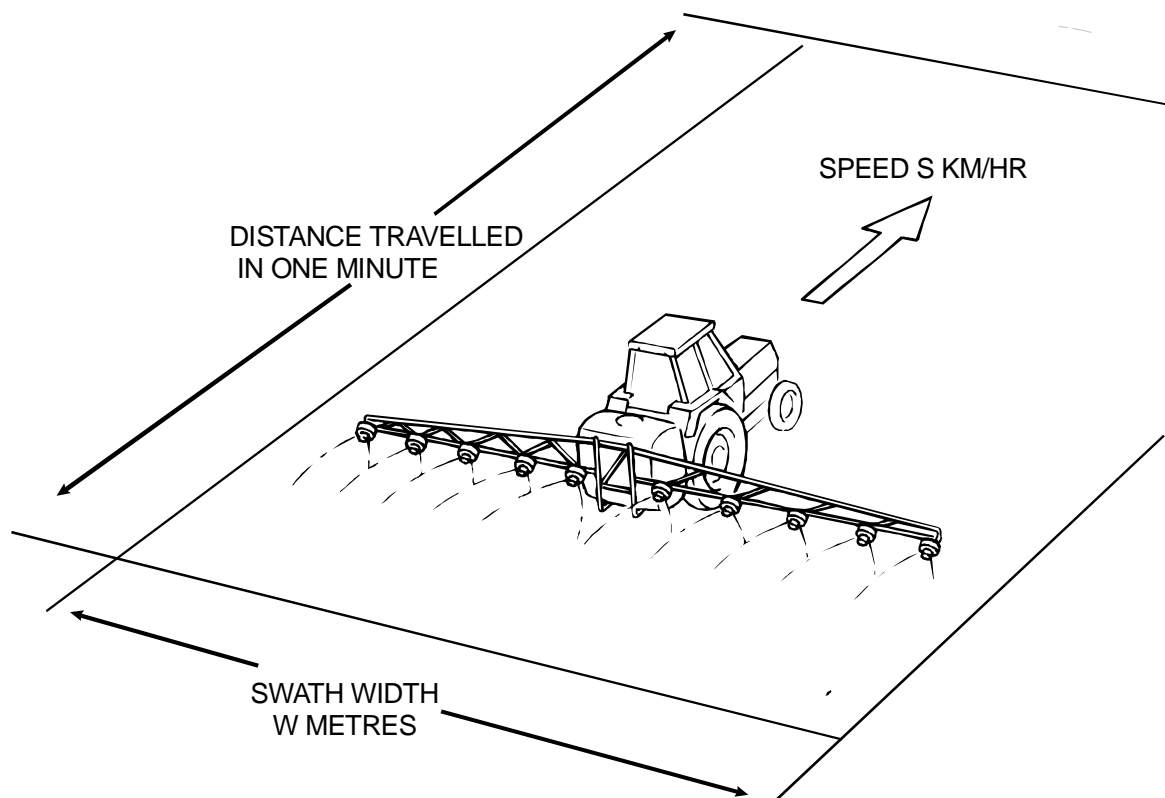

Figure 9. Coverage of sprayer
3. Calculate the area treated by the sprayer per minute. As an example, Fig 9 shows the sprayer being operated over a field crop.